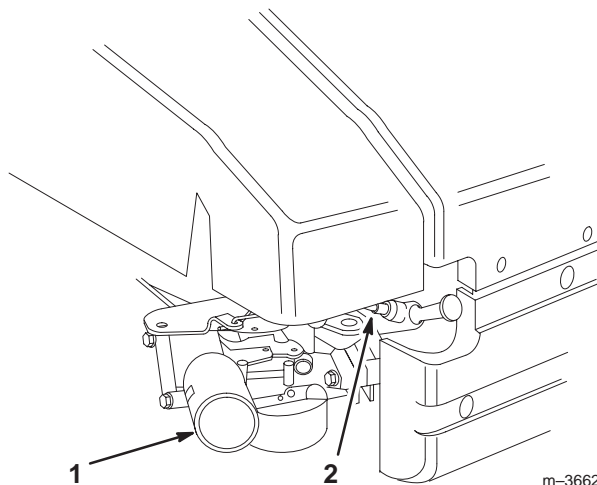

Fig. 7 – Remove Spark Plug Wire Prior to Service
1. Stop engine and pull wire off spark plug (Fig. 7).